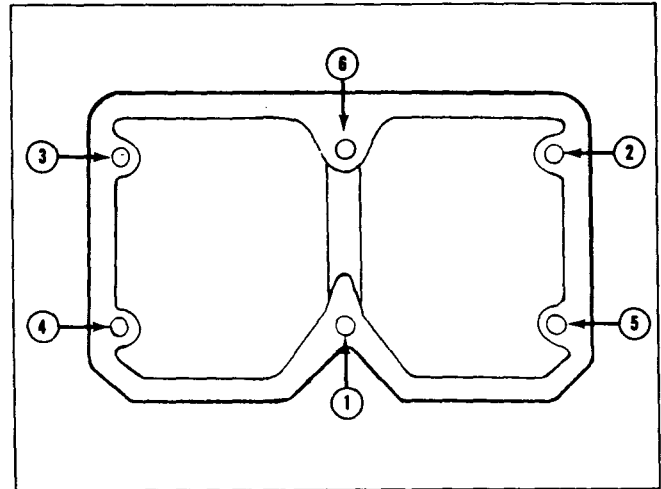

Fig. 14-53, (N11463). Torquing sequence for rocker lever housing
4. Secure housing, brackets, and support with capscrews. Tighten in sequence (Fig. 14-53), to 55 to 65 ft-lbs [75 to 89 N•m] torque.